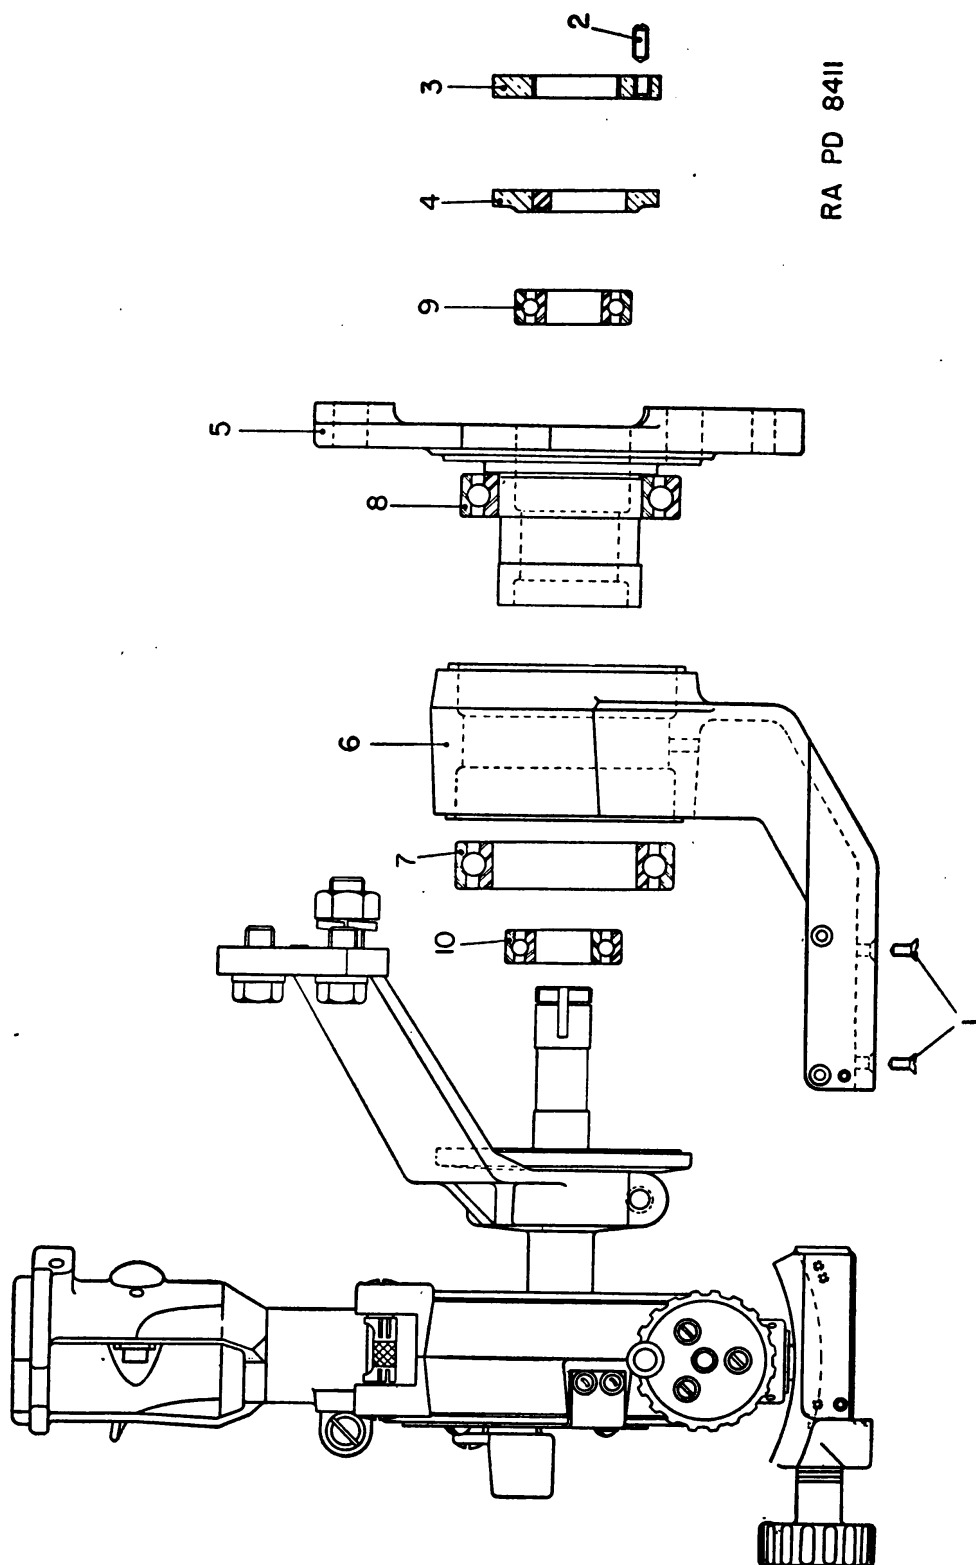

FIGURE 19.—Exploded view of rocker and bearings.
*b. Adjustment.*—Loosen the headless locking screw (2, fig. 19) and tighten the nut (3) until all play is removed and the support bracket can be rotated without undue looseness or excessive friction. Firmly tighten the locking screw.
**21. Plumb travel.**—*a. Inspection.*—(1) With the telescope mount assembled to the gun carriage, elevate or depress the gun so that the bore of the gun is horizontal. Center the bubbles in the cross level and longitudinal level vials by means of the respective mechanisms of the telescope mount.
(2) *Elevating worm gear.*—(a) With the elevating mechanism disassembled as described above, further disassemble the telescope mount as illustrated in figure 19. The numbers on the illustration indicate the order of disassembly.
*f. To reassemble elevating mechanism.*—(1) *Elevating worm gear.*—Clean all bearings and gear teeth. Place a few drops of oil on the felt washers, strip, bearings, and gear teeth. Follow the same procedure for reassembling as for disassembling, except in the reverse order. (See figs. 19, 20, and 21.) Adjust the adjusting nuts so that the parts affected operate smoothly without undue friction or looseness.
(1) With the telescope mount body and actuating arm removed from the rocker (fig. 19) as described above, proceed to disassemble the cross-leveling mechanism.